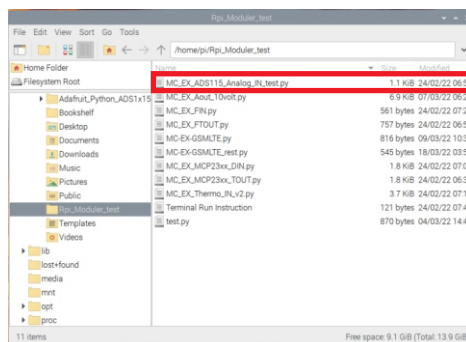

Figure 3: The example programs for expansion modules.
8. Select the **MC_EX_ASC1115_Analog_IN_test.py** example program that matches with the Analog Input expansion module shown in Figure 3.